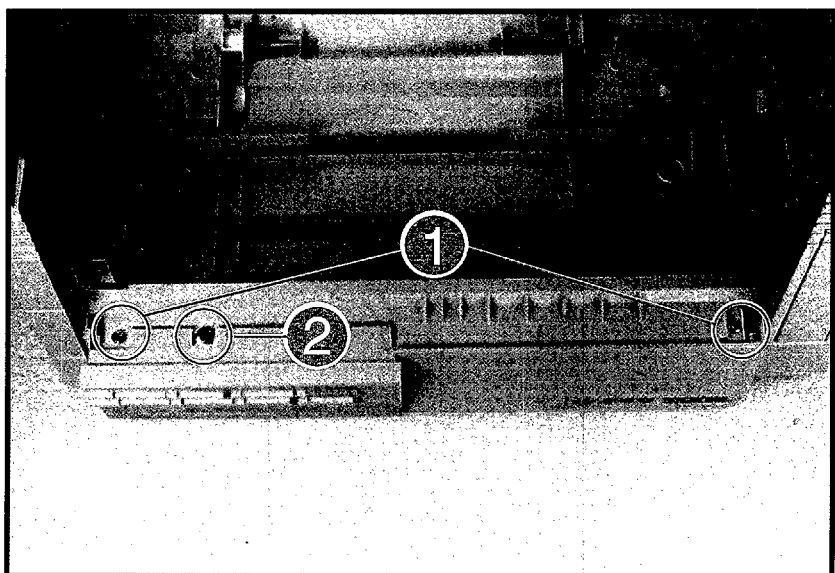

Figure 6-11 Removing the Control Panel Assembly (LaserJet 4P/4MP)
2. Remove the (3) machine screws (one with star washer) (Figure 6-11, callouts 1 and 2).